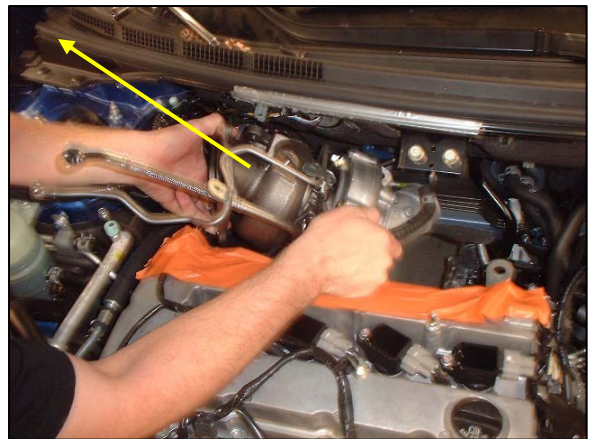

Fig. 25
- 28. Pull the turbocharger up and out of the engine compartment from the top side. It may be necessary to tilt the turbocharger on end and rotate it to allow removal. The space between the cowl/firewall and the valve cover is fairly tight but the turbocharger will fit. Thick tape can be used to protect the valve cover and cowl if desired. Be careful not to damage any oil lines, water lines, electrical wiring or other components under the hood. See *Fig. 25*.